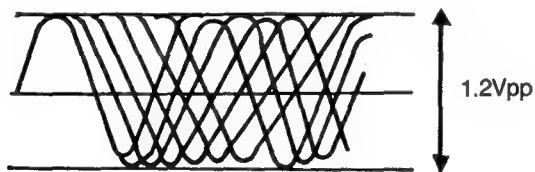

Figure 1
2) Adjusting procedure (Figure 1)
- Connect the oscilloscope to TP1 (RF) and TP4 (GND)
- Adjust VR101 so that oscilloscope indicate the figure shown in Figure 1.